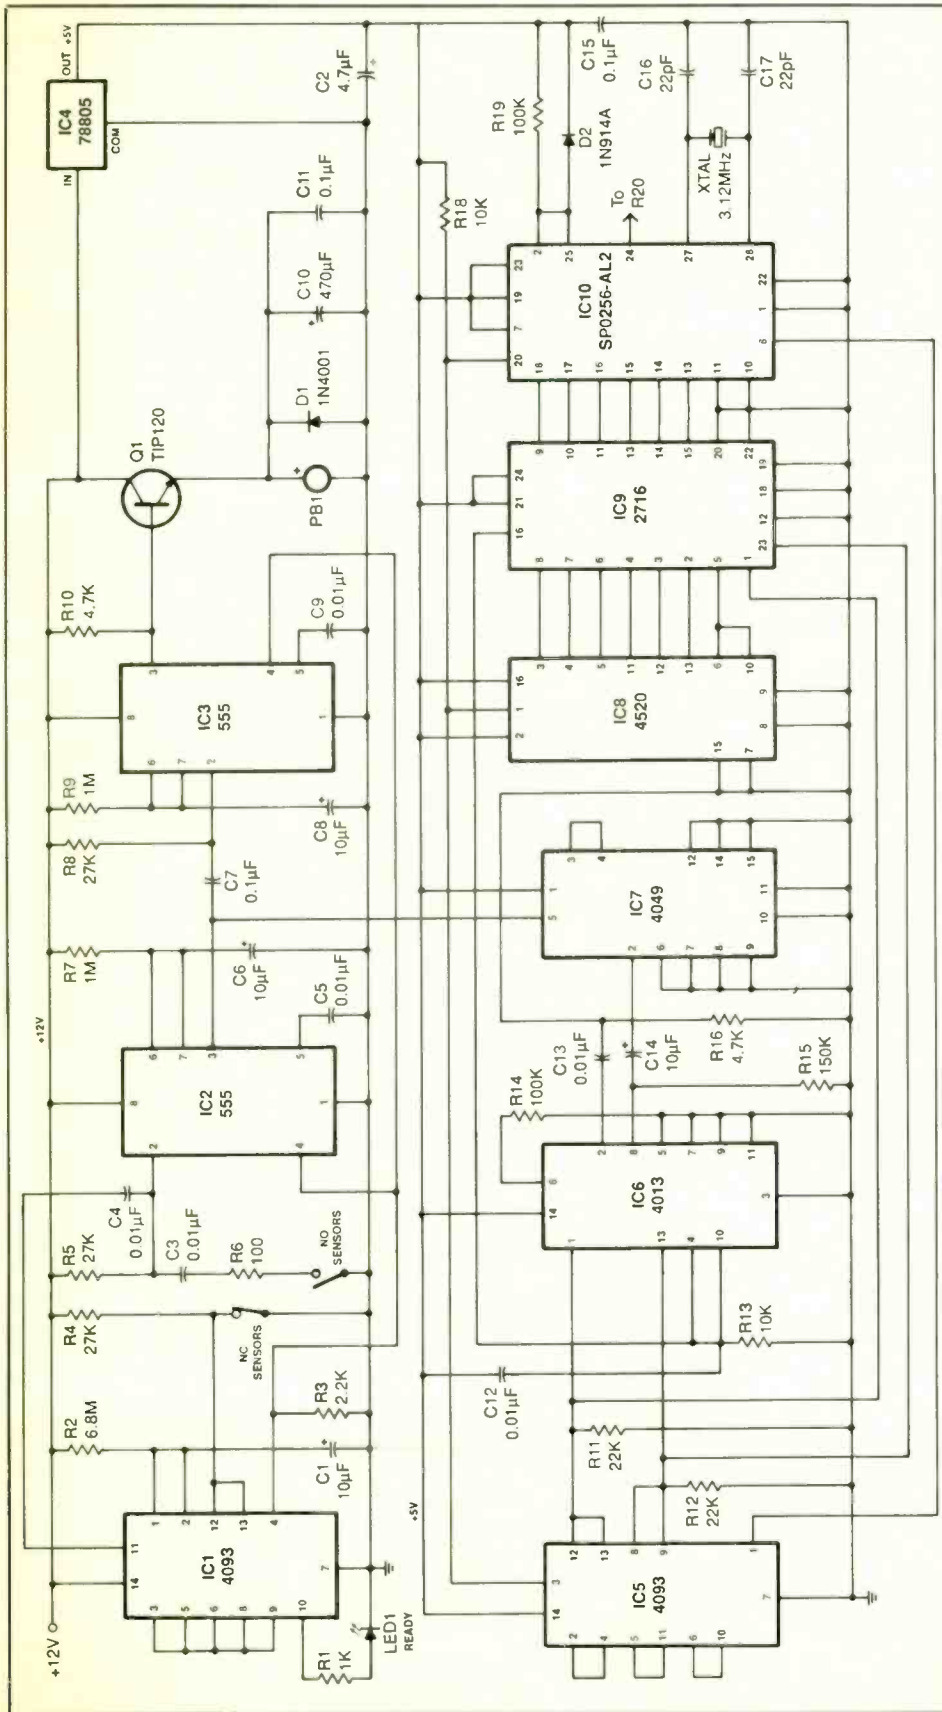

Fig. 1. Schematic diagram of timer, buzzer, logic and synthesizer portions of alarm circuit.
As shown in Fig. 1, the Telephone
As you can see in Fig. 1, this project's circuit is very simple. You can assemble the circuit on a small printed-circuit board. Since there is nothing critical about circuit layout and wire routing, you also have the option of using a small perforated board with holes on 0.1-inch centers and soldering or Wire Wrap hardware. Whichever technique you choose, be sure to use sockets for the ICs.
into place. Referring to Figs. 1 and 3, connect and solder the free ends of the remaining wires to the lugs on the switches. Turn over the board and clip all leads as close as possible to the board.
The complete schematic diagram (minus a few voltage-stabilizing and bypass capacitors that are listed in the Parts List) of the vocal warning alarm is shown schematically here in two parts. Figure 1 shows the basic timing and logic/synthesizer sections, while Fig. 2 shows the audio amplification stage and the power supply for the complete project. This arrangement makes it possible for the alarm to vocalize two different messages, each depending on the condition of the alarm.
Once power has been applied to the circuit, capacitor *C1* in Fig. 1 begins to charge exponentially at a rate determined by the formula  $T_1 = 0.41R_2C_1$ . From this formula, it would take approximately 30 seconds to reach a threshold level of 6.2 volts with the component values specified. When the threshold level is reached, the output at pin 4 of *IC1* goes high and enables the resets at pin 4 of timers *IC2* and *IC3*. Consequently, you have approximately 30 seconds to vacate your premises or vehicle before the alarm sounds.
Note in Fig. 1 that the timer and buzzer sections of the circuit are supplied from a 12-volt dc source, while the remainder of the circuitry is powered by a 5-volt dc source. The latter is obtained from the +12-volt line by passing it through voltage regulator IC4. The +12-volt line, as shown in Fig. 2, is obtained by passing the raw dc from bridge rectifier RECT1 and filter capacitor C26 through the IC12 +12-volt regulator.
EPROM identified in Fig. 1 as IC9.
cuit in Fig. 1. When IC10 is finished generating the desired allophone, its output at pin 8 goes to a logic 1. This output, therefore, indicates to a NAND gate in IC5 that IC10 is ready to be triggered again. This process continues until data output from IC9 has reached its end.
As you can see in Fig. 1, this project can accommodate both normally open (NO) and normally closed (NC) switch-type alarm trip sensors. If you plan on installing the alarm inside your home or office, you can use either or both types of sensors, as the need arises. Door and window sensors should be ordinary magnetic-type devices. Use glass breakage sensors for window panes as well.